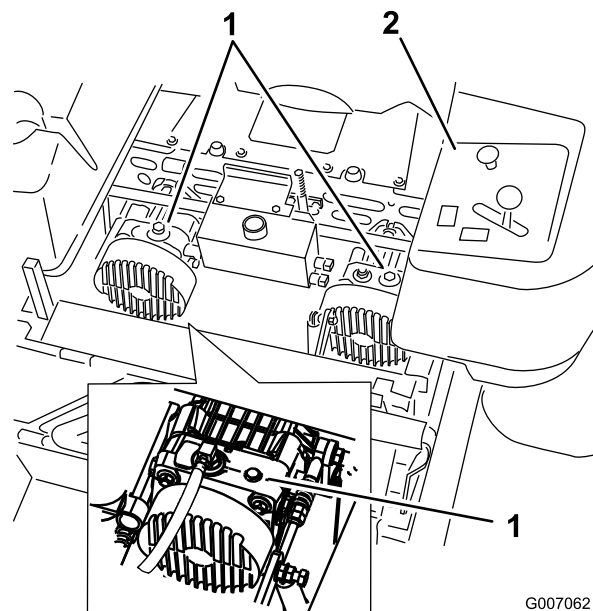

Figure 32
2. Rotate the by-pass valves counterclockwise 1 turn to push. This allows hydraulic fluid to by-pass the pump enabling the wheels to turn (Figure 32).
Rotate the by-pass valves clockwise 1 turn to operate machine (Figure 32).